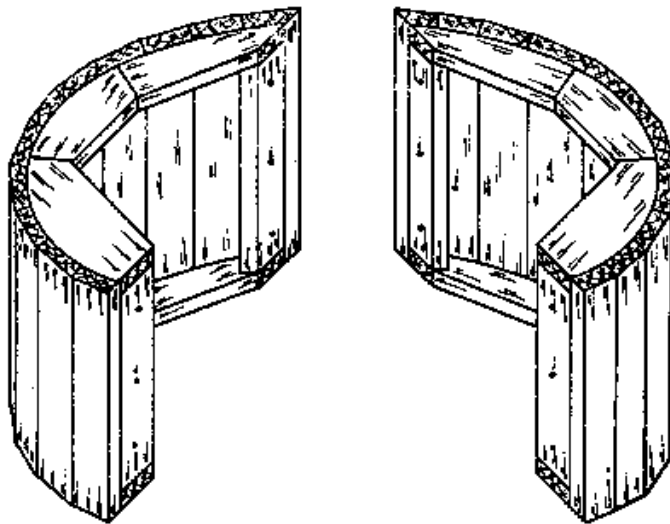
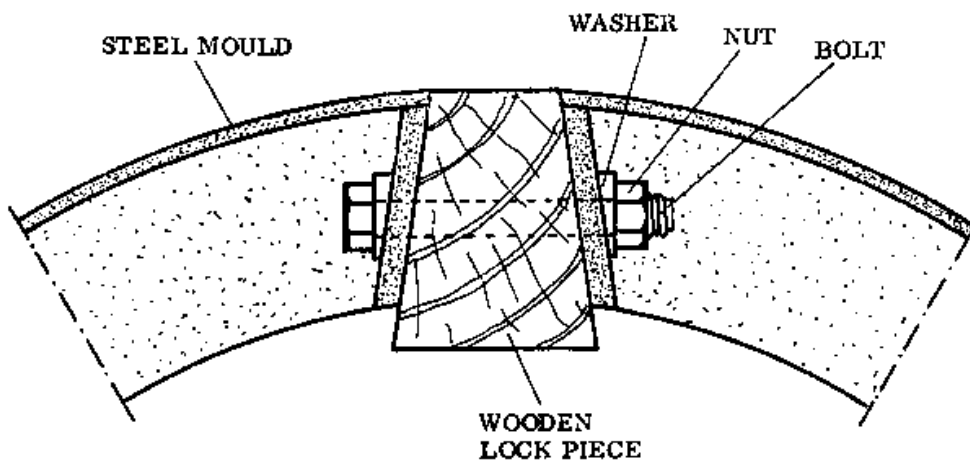

Fig. 2 WOODEN MOULD
Fig. 3
- MOULDS: A steel mould (Fig. 1) or a wooden mould (Fig. 2) is used to support the sections of concrete lining during construction and curing. After the ring has hardened sufficiently, the wooden lock pieces are removed and the mould is taken out and used for the next ring (Fig. 3).